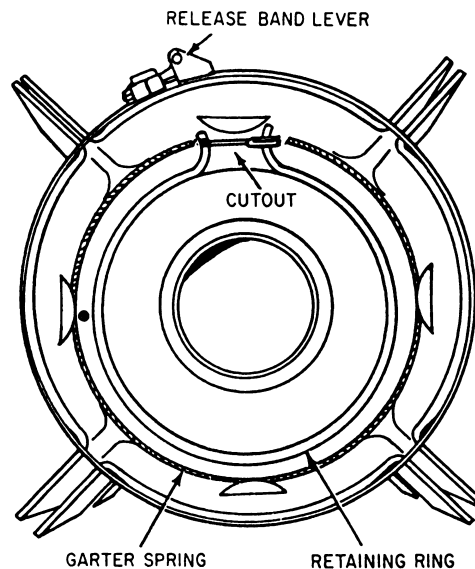

Figure 12-39.—Relationship of cutout in flange to release band lever.
8. With the ears of the retaining ring in the proper position, orient the fin to the bomb body. The cutout in the fin support must align with the ears of the retaining ring. (See figures 12-39 and 12-40.)